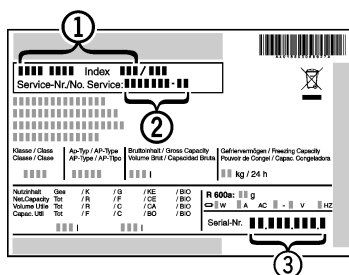

Fig. 8
- ▶ Read the appliance designation Fig. 8 (1), service No. Fig. 8 (2) and serial No. Fig. 8 (3) off the type plate located inside the appliance on the left-hand side.
- ▶ Notify the customer service, specifying the fault, appliance designation Fig. 8 (1), service No. Fig. 8 (2) and serial No. Fig. 8 (3).